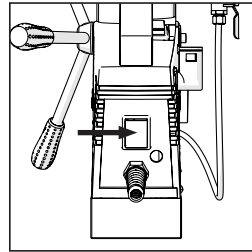

Fig. 4
- Operate the rocker switch on the machines switch panel to energise the magnet. **(Fig. 4)**